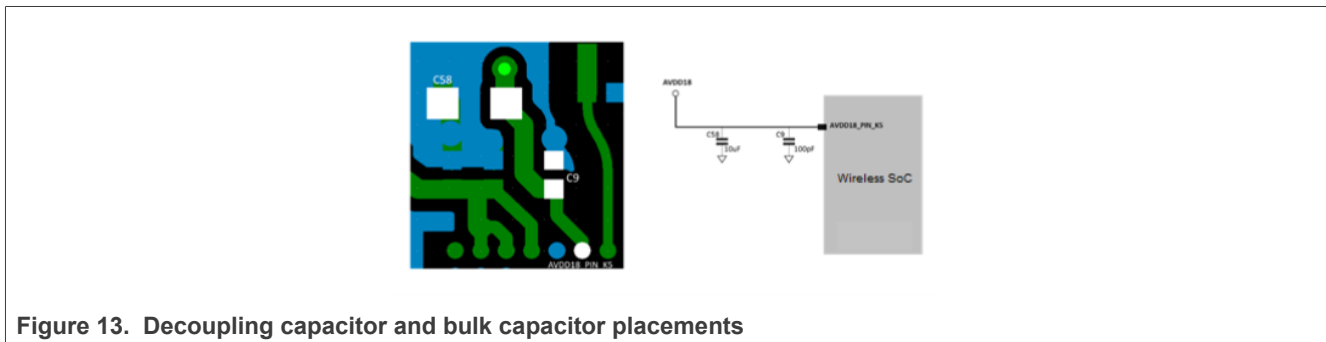

Figure 13. Decoupling capacitor and bulk capacitor placements
- Ensure that each power pin has its own decoupling capacitors. Place the decoupling capacitors, especially the high frequency ones (C9), as close as possible to the power pin. Figure 13 shows an example where C9 is the decoupling capacitor for K5 pin. In this example, place C9 as close as possible to K5 pin, and place C58 close to C9.